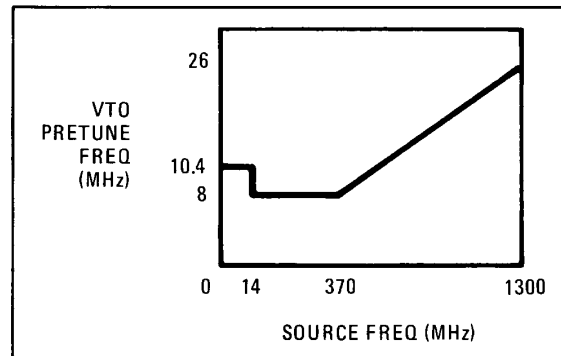

Figure 8-59. VTO Pretune as a Function of Source Frequency
**Pretune.** The Pretune interval starts the acquisition sequence, and pretunes the VTO frequency in preparation for phase lock. The Pretune interval is approximately .3 milliseconds long and is initiated when the H SET VTO and H ACQ lines from A14 go high (+5V). Both the RF and CRT trace sweeps are stopped and the CRT display is blanked. The H SET VTO line activates the Pretune Loop to tune the VTO to a known frequency. The desired pretune frequency is a function of the RF Source frequency as shown in Figure 8-59. This function is generated by the Pretune Shaper, which uses as its inputs the FREQ REF voltage from the Shaper (A15, Service Sheet 6) and the  $F > 14$  MHz control line from the ADC on A14. The VTO Pretune voltage is applied to the Pretune Error Amplifier, where it is compared with the VTO tuning voltage. The error amplifier output is applied to the First Integrator during the Pretune interval to drive the VTO tuning voltage until it is equal to the VTO Pretune voltage. As a result, the VTO